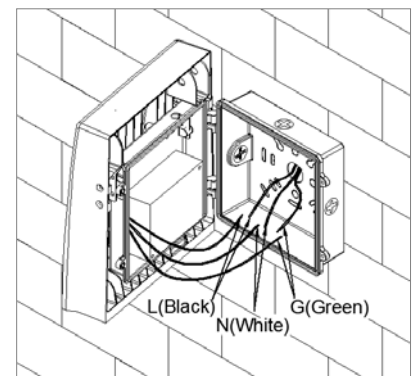

FIGURE 3
- Reattach the front housing hinges to the back housing hinges. Then, using wire nuts, make wiring connections as follows (see FIGURE 3):
- Black incoming power wire to the line (L) supply wire
- White incoming power wire to the neutral (N) supply wire
- Green incoming wire to the ground (G) wire.